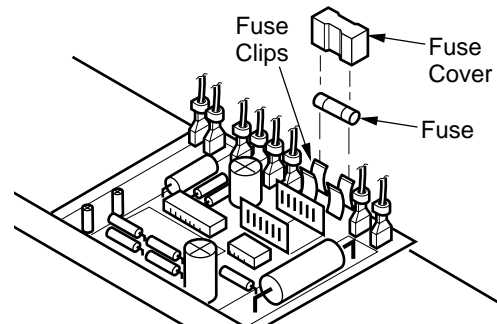

Figure 27 - Replacing Fuse
2. Remove side cover screws (4) using 5/16" nut-driver to expose ignition control assembly.
3. Remove fuse cover (see Figure 27).